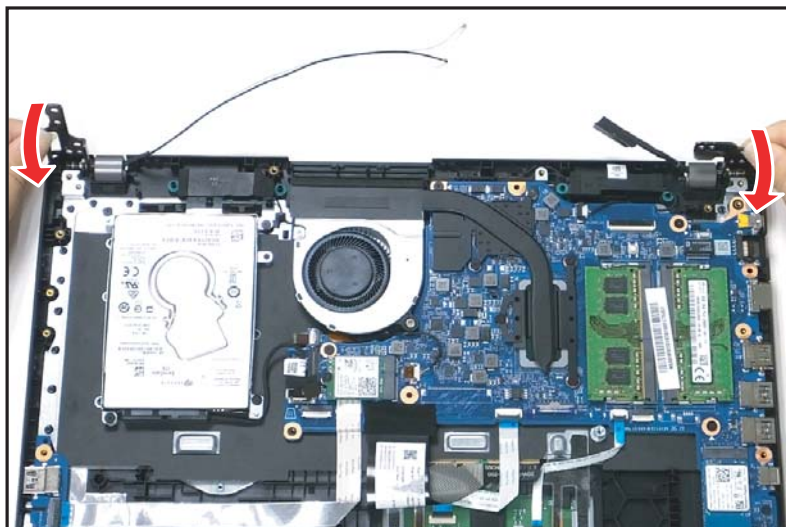

Figure 1-95. Replacing the LCD Module
2. Close both LCD hinges until they are fully seated in place (Figure 1-95).